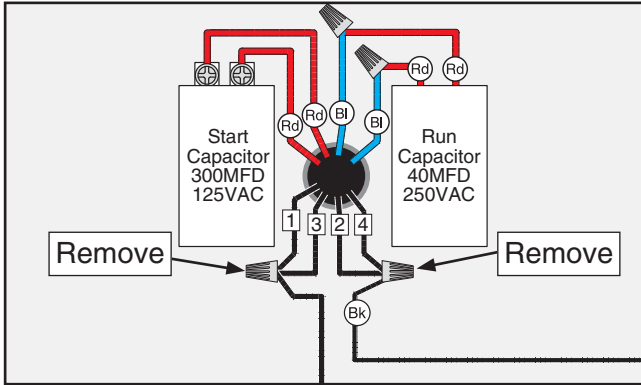

Figure 6. Motor wires at 110V.
- Remove the wire nuts indicated in **Figure 6**.